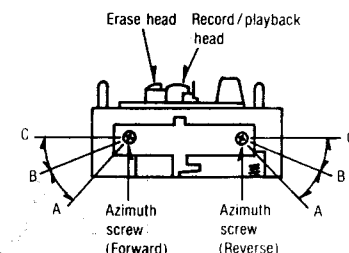

Fig. 3
- The serial number plate of this product is attached to the back chassis (shown in fig. 3).
- In the forward playback mode, playback the 8kHz signal from the test tape (QZZCFM). Adjust the azimuth screw (Forward) shown in fig. 3 for maximum output L-CH and R-CH levels. When the output levels of L-CH and R-CH are not at maximum at the same point adjust as follows.
- Turn the azimuth screw (Forward) shown in fig. 3 to find angles A and C (points where peak output levels for left and right channels are obtained). Then, locate angle B between angles A and C, i.e., point where L-CH and R-CH outputs are balanced. (Refer to figs. 3 and 4.)
- In the forward playback mode, playback the 8kHz signal from the test tape (QZZCFM). Adjust the azimuth screw (Forward) shown in fig. 3 so that pointers of the two EVMs swing to maximum and a lissajous waveform as illustrated in fig. 6 is obtained on the oscilloscope.